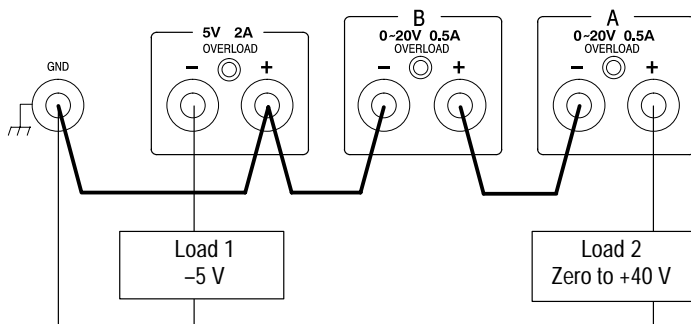

Figure 6: Connecting the Two 0–20 V Supplies in Series to Product 0 to +40 V
Figure 6 shows the power supply connected in series to produce a variable output of 0 + 40 V, ground referenced, and -5 V, ground referenced. The **VOLTAGE** and **CURRENT** controls are in series. The **V** meter reads only one supply at a time and the **mA** meter reads total current in either position. To read the total voltage the readings from the **A** position and **B** position must be added. To set up this configuration, proceed as follows:
1. Turn **POWER** to **OFF**, and connect the outputs as shown in Figure 6.